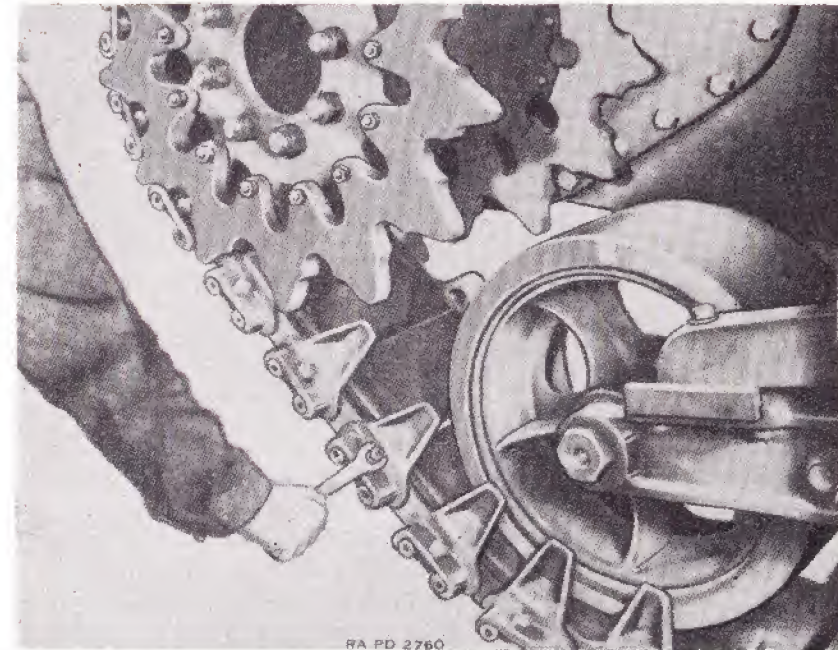
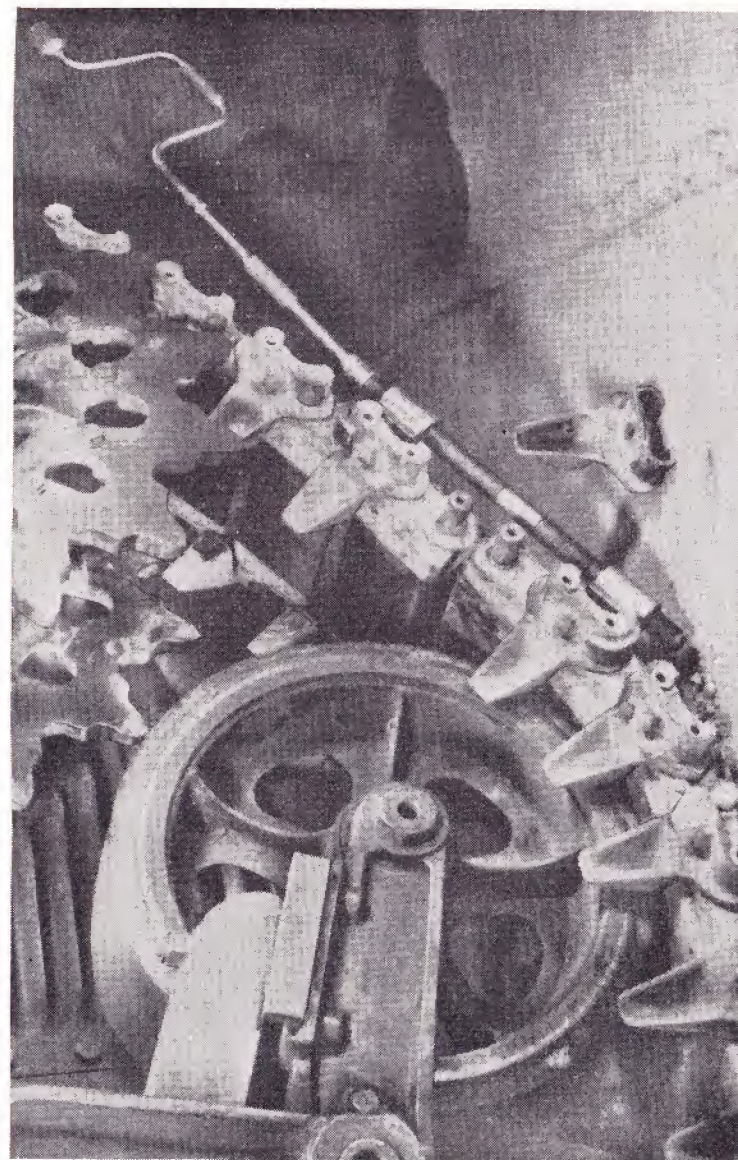
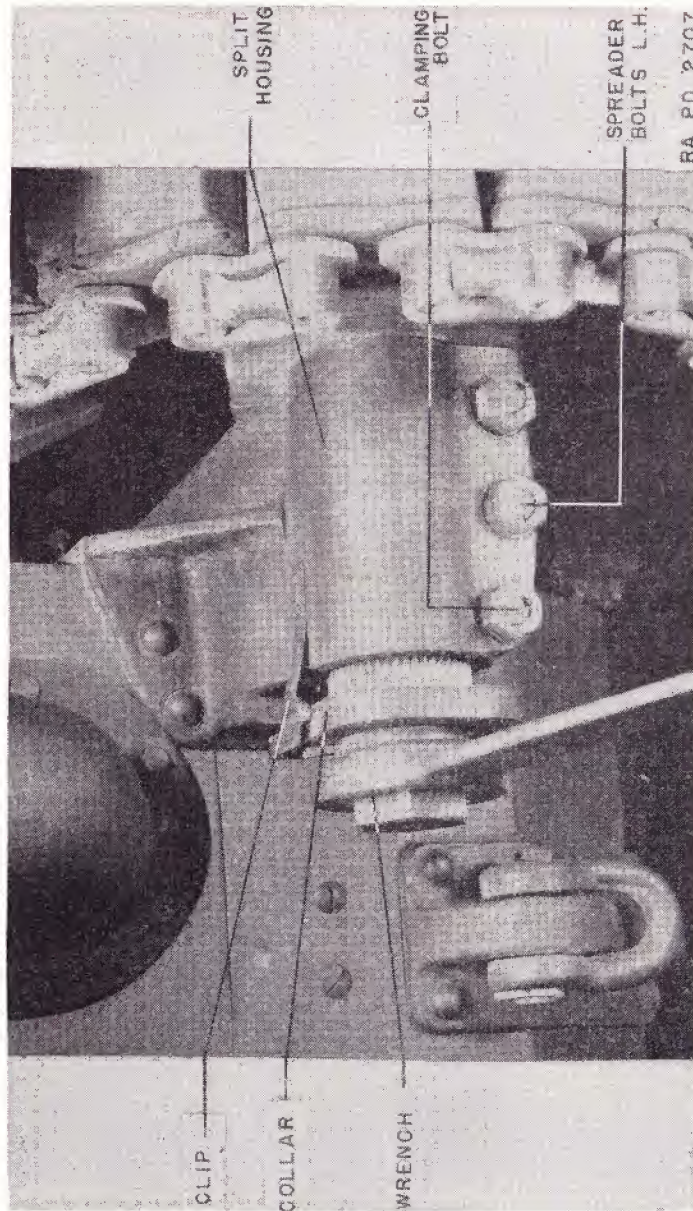

FIGURE 55.—Removing end connection from track.
FIGURE 56.—Assembly of track.
FIGURE 57.—Idler track adjustment
97. Tracks.—*a. Description* (fig. 55).—Most of the medium tank tracks are composed of rubber track shoe units, each assembled with two pins. The units are assembled into an endless track by the steel end connections which are secured to the ends of the pins by wedges. The steel end connections also serve as guides to keep the track in alinement with the bogie wheels, idlers, and drive sprocket. The outer ends of the connections serve as driving lugs and engage the teeth of the final drive sprocket. Some of the tanks are provided with rubber jointed tracks having a steel wearing surface of interrupted grouser design and an inside cushioning surface of rubber.
c. *Removal of track* (fig. 55).—(1) Make sure that tank is on level ground.
- (4) Remove connections as shown in figure 55.
- (5) Lower the bottom portion of the track to the ground.
- (6) Move the upper portion of the track to the rear over the drive sprocket and supporting rollers by means of a crowbar.
- (7) Push or pull the vehicle off the tracks.
d. To replace track (fig. 56).—(1) Lay the track on the ground in a trench at the tank and deep enough so that the bogie can ride onto track, and push or pull the vehicle on it so that the end of the track projects out beyond the front bogie wheel approximately 16 inches.
(2) Bring the other end of the track over the idler and track-supporting rollers to the drive sprocket.
(3) Take up the slack by revolving the drive sprocket forward with a long bar.
(4) Bring the end shoes together by means of a special jack hook until the guides, wedges, and nuts can be replaced as shown in figure 56.
(5) Adjust track as described below.
e. To adjust track (fig. 57).—(1) Loosen the two outside clamping bolts which hold the spindle of the eccentric cam in the split housing.
(2) Spread the split housing by turning the center bolt counter-clockwise.
(3) Raise the clip at the end of the spindle.
(4) Drive the collar (plate) off the serrations of the spindle.
(5) Adjust the idler by turning the hex end of the spindle shaft.